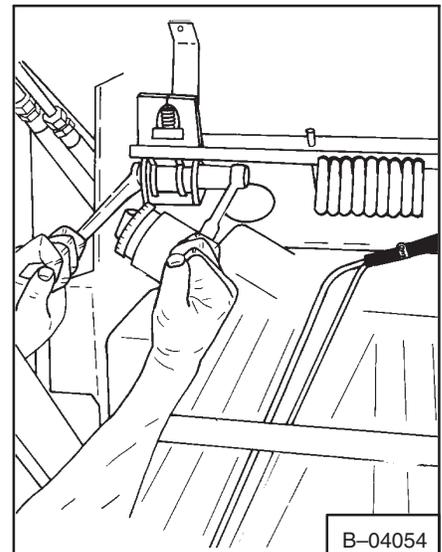

Fig. 5-8 Removing Nuts
5. With the chain of the chain hoist tight remove the nuts from the bolts (Fig. 5-8).
4. Install the nuts and tighten to 25-35 ft.-lbs. (34-37 Nm) torque (Fig. 5-8).